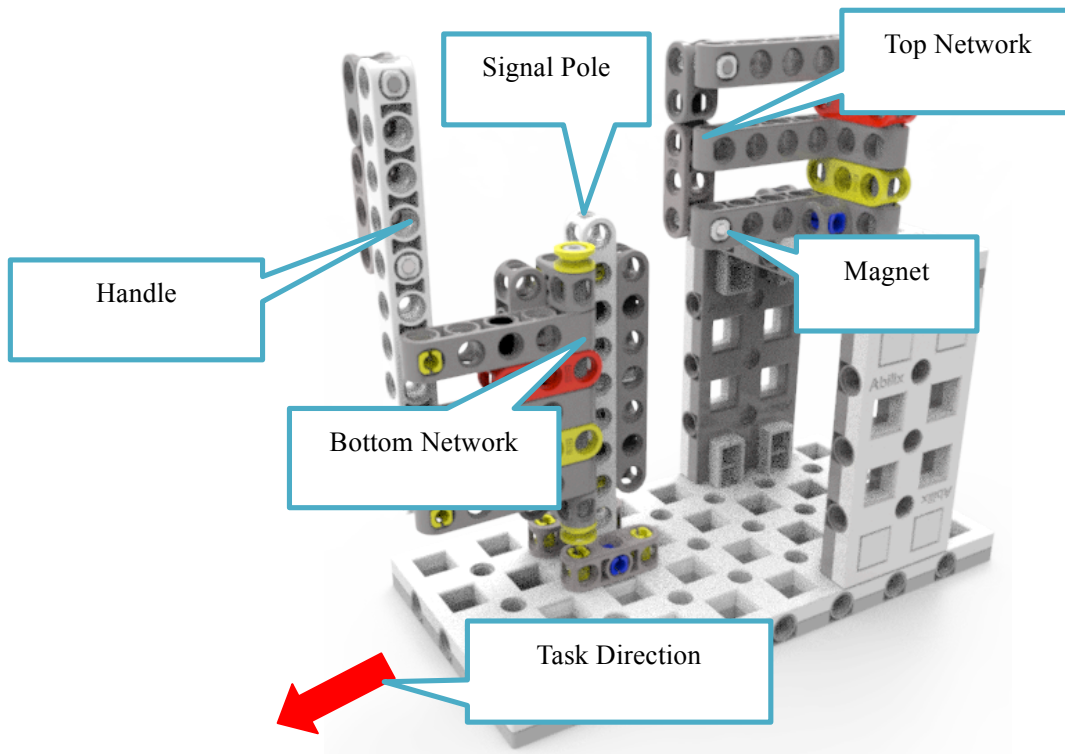

Figure 3-1-1 Network Upgrading Initial Status
3.1.1 Network upgrading task model can be put from Position 1 to 9 with fixed direction. Top and Bottom Networks are offline, and Bottom Network is attached to Signal Pole, as shown in Figure 3-1-1.